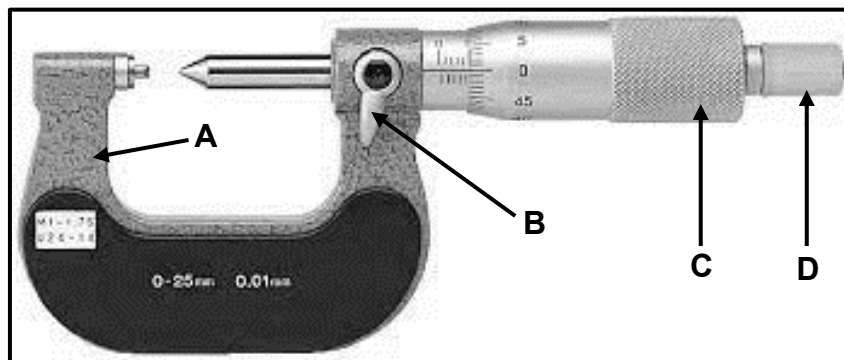

FIGURE 7.4
7.4 FIGURE 7.4 below shows a screw thread micrometer. Label A–D.